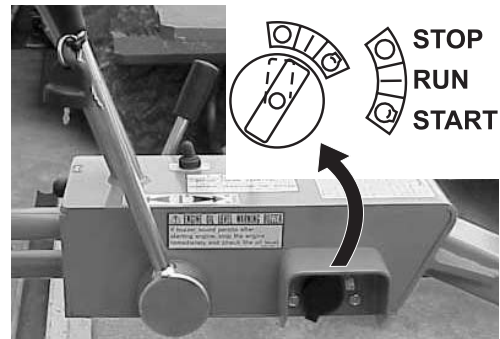

Figure 14. Starter Key (Run Position)
5. Insert the starter key into the key switch and turn it to the **RUN** position (Figure 14). The buzzer should sound at this time.